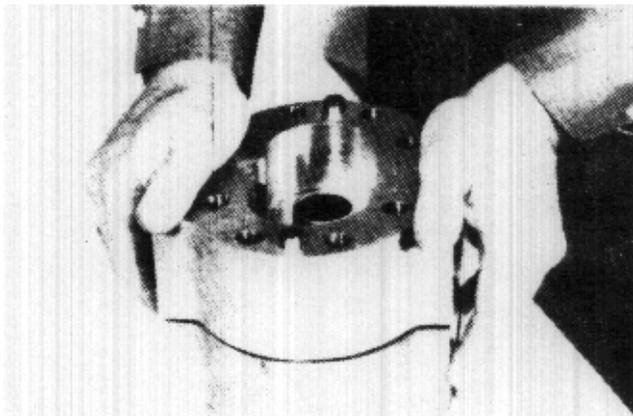

FIGURE 62
34. Install dowels (20).
35. Install body (1) with identifying mark made in Step 2 facing you, and with gear bore up .
37. Install dowels (20) in body (1). (Figure 62)